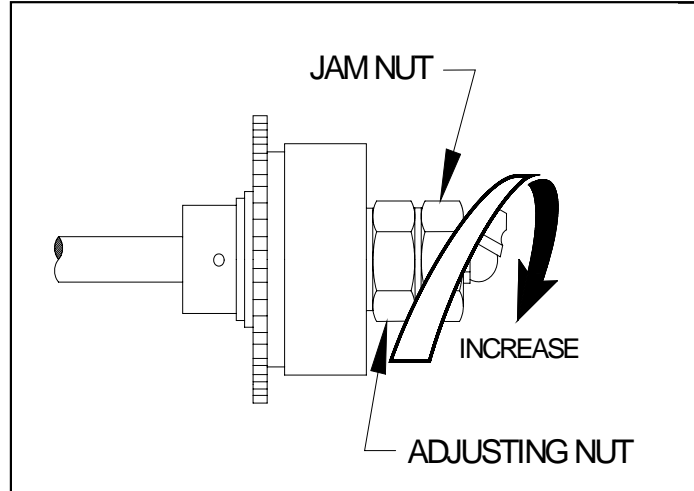

FIGURE 4-19: TORQUE LIMITING CLUTCH ADJUSTMENT
- 1) Refer to **Figure 4-19**. Do the following, if clutch adjustment is necessary: